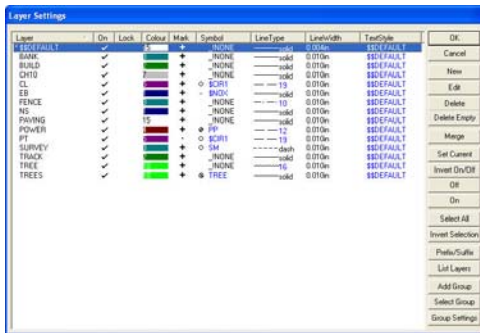

Figure 7-6. Layer Settings
Click **View ► Layers** to open the *Layer Settings* dialog box (Figure 7-6 on page 7-8) or click the **Layer Settings**  icon on the toolbar.
1. Click **View ▶ Layers**. The *Layer Settings* dialog box appears. See Figure 7-6 on page 7-8.
8. Click **OK** to accept the settings and return to the *Layer Settings* dialog box (Figure 7-6 on page 7-8). The new layer will be set as the current layer.
1. Click **View ► Layers**. The *Layer Settings* dialog box appears. See Figure 7-6 on page 7-8.
1. Click **View** ► **Layers**. The *Layer Settings* dialog box appears (Figure 7-6 on page 7-8).
1. Click **View** ► **Layers**. The *Layer Settings* dialog box appears. See Figure 7-6 on page 7-8.
1. Click **Select Group** on the *Layer Settings* dialog box (Figure 7-6 on page 7-8).